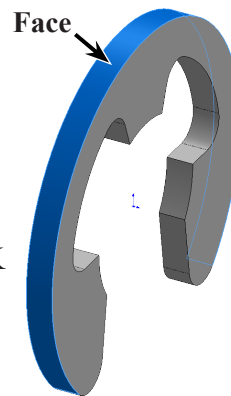

Fig. 22
Step 1. Click a **cylindrical face** to select it, **Fig. 22**.